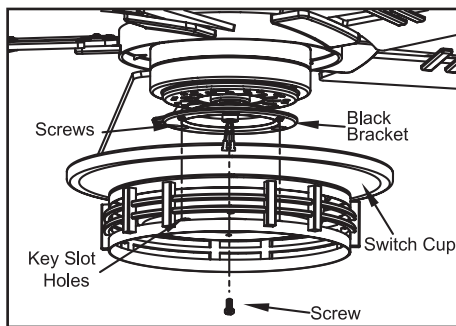

Figure 12
1. Remove one of three mounting screws on the black bracket below the fan motor assembly, loosen but do not remove the other two mounting screws (Figure 12).
3. Re-install the mounting screw that was removed in step 1 and tighten firmly (Figure 12).